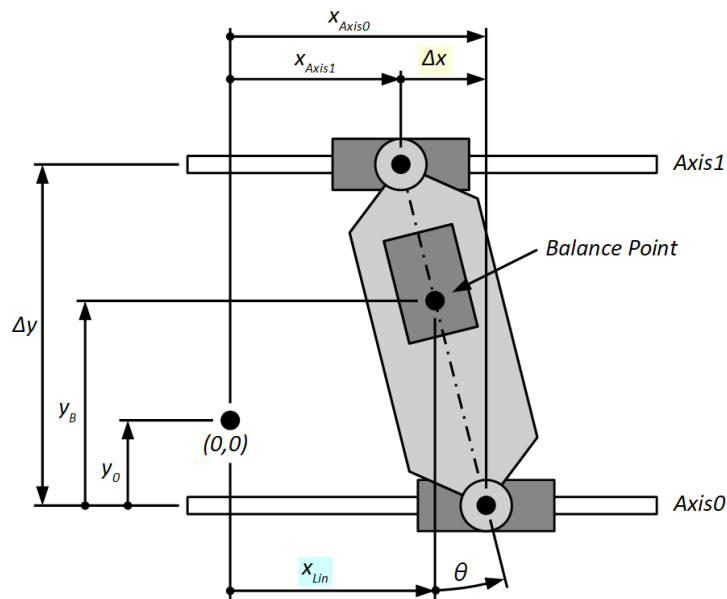

Figure 1: Gantry coordinate systems: Motor related coordinates ( $x_{Axis0}$ ,  $x_{Axis1}$ ) and linear/rotational coordinates ( $\theta$ ,  $x_{Lin}$ ).
The coordinates are illustrated in Figure 1. The position difference  $\Delta x = x_{Axis0} - x_{Axis1}$  is used as input for the rotational controller which is proportional to the angle  $\theta$ 1.
- If there is a dependency to another axis (in the following called axis  $y$  in accordance with Figure 1), repeat the measurement above for different positions of the axis  $y$  and fit `BalanceOffset` and `BalanceSlope` into the measurement according to the equation (2).